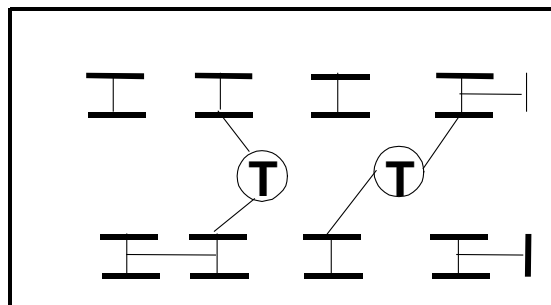

Fig. 1 Wired for 120VAC Operation
Step 1: Wire Power Transformer Terminal Block as illustrated in Figure 1.